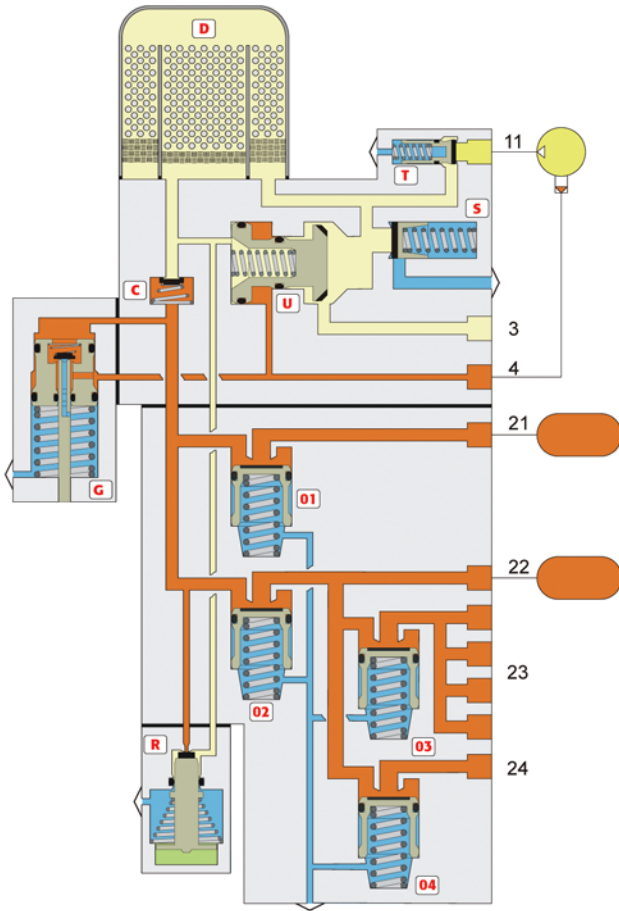
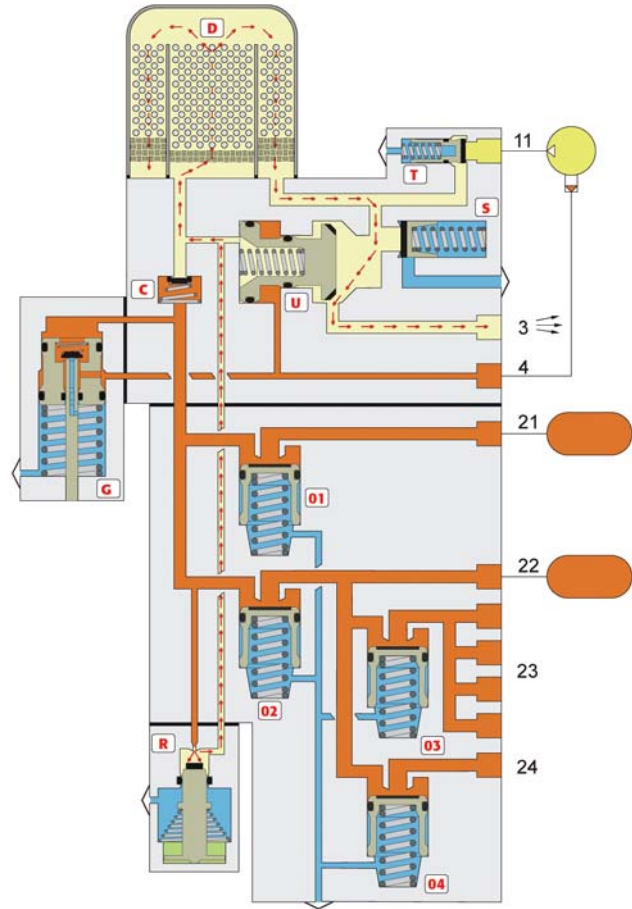

Figure 5: Unloader valve (U) open and regeneration valve (R) allowing air to backflow through dryer for purge cycle
Figure 6: All pressure protection valves (O1...O4) open and filling primary brake circuits
When the system pressure has reached the set cut-out pressure, the governor (G) sends a control signal through port 4 to the compressor so that it will unload. At the same time, the unloader valve (U) receives this control line pressure, causing it to open and allow air to backflow from the air brake circuits (figure 5). The regeneration valve (R) serves as a timer that will allow sufficient air to backflow from the brake circuits before closing as seen in figure 6.